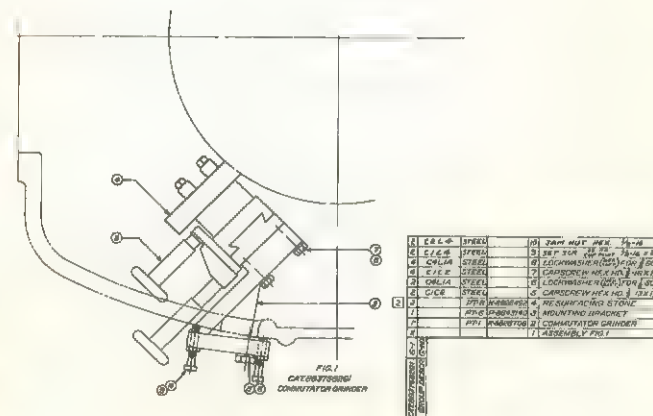

Fig. 33-10
6. Install commutator grinder, Cat. 8837582G1, in bottom commutator opening on suspension side; this is safest place and will allow most of the grinding dust to fall out. See Fig. 32-10. Grinder assembly consists of a "Midget" grinder, mounting bracket, resurfacing stones and various capscrews and set screws as indicated in Fig. 33-10. Install grinder as follows: